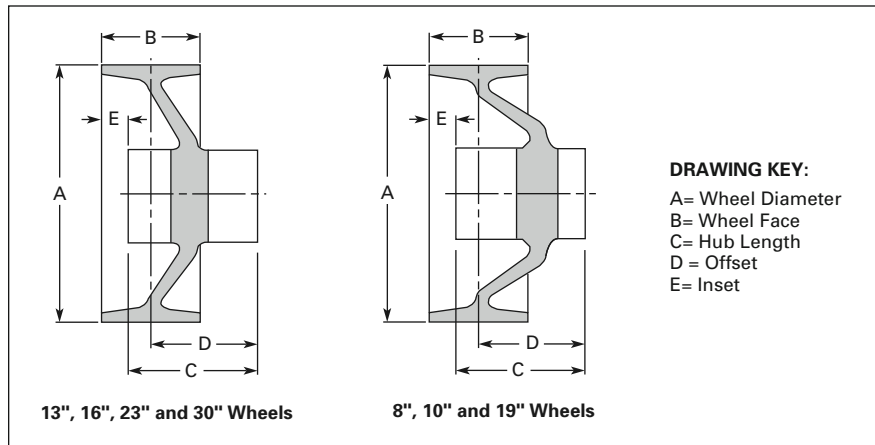

Figure 4. Brake Wheel Dimensions
^② See dimensional drawing, **Figure 4** on **Page 11**.
① 400 - 600 - 800 ac motor frames all per AISE specifications. See Page 12 for dimensional compatibility.
② See dimensional drawing, Figure 4 on Page 11.